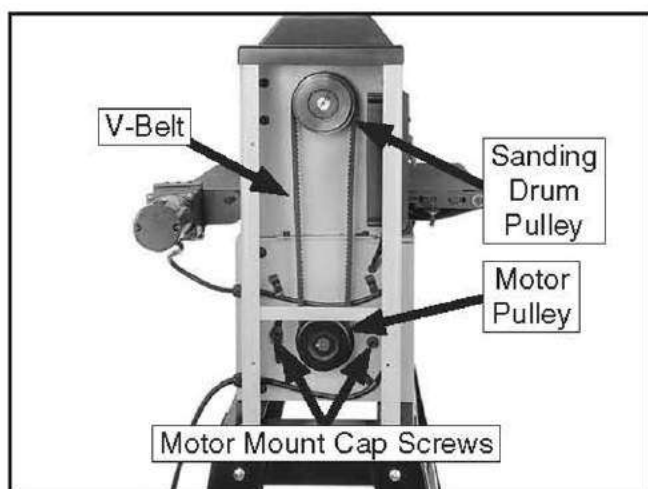

Figure 38. Belt drive system.
5. Loosen motor pulley set screws and sanding drum pulley set screws and align both pulleys (see **Figure 38**).